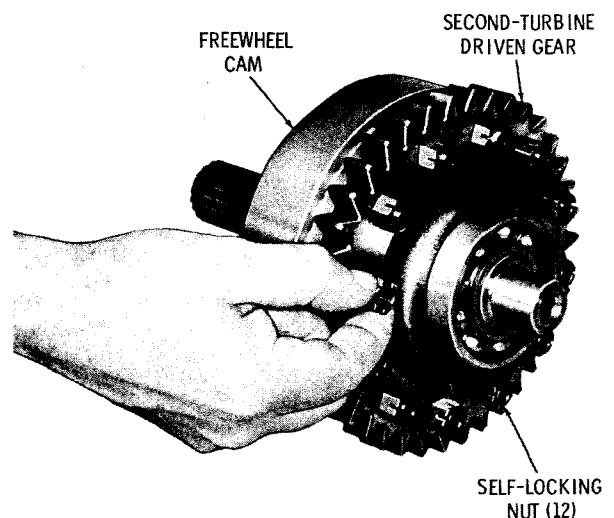

Fig. 6-12. Installing self-locking nut onto freewheel cam bolt
(6) Secure the assembled parts with twelve self-locking nuts (fig. 6-12). To prevent rotation of the bolt heads, use the tool shown in figure 4-3, or an open-end wrench and tighten the nuts to 41 to 49 pound feet (56 to 66 Nm) torque.